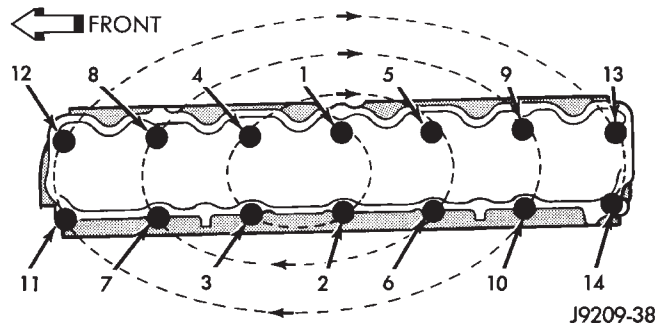

Fig. 36 Engine Cylinder Head Bolt Tightening Sequence
(3) With bolt No.14 held in place (tape around bolt), install the engine cylinder head. Remove the tape from bolt No.14.
(4) Coat the threads of stud bolt No.11 with Loctite 592 sealant, or equivalent.
(5) Tighten the engine cylinder head bolts in sequence according to the following procedure (Fig. 36).